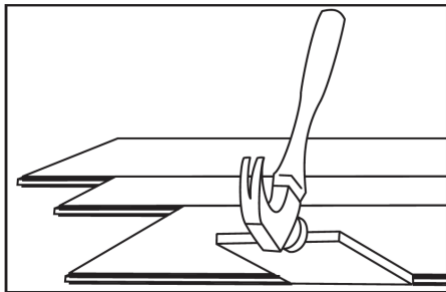

Figure 11
- It may be necessary to align the product with a cut-off piece of scrap as shown (**Figure 11** - Keep scrap angle low to avoid edge damage).